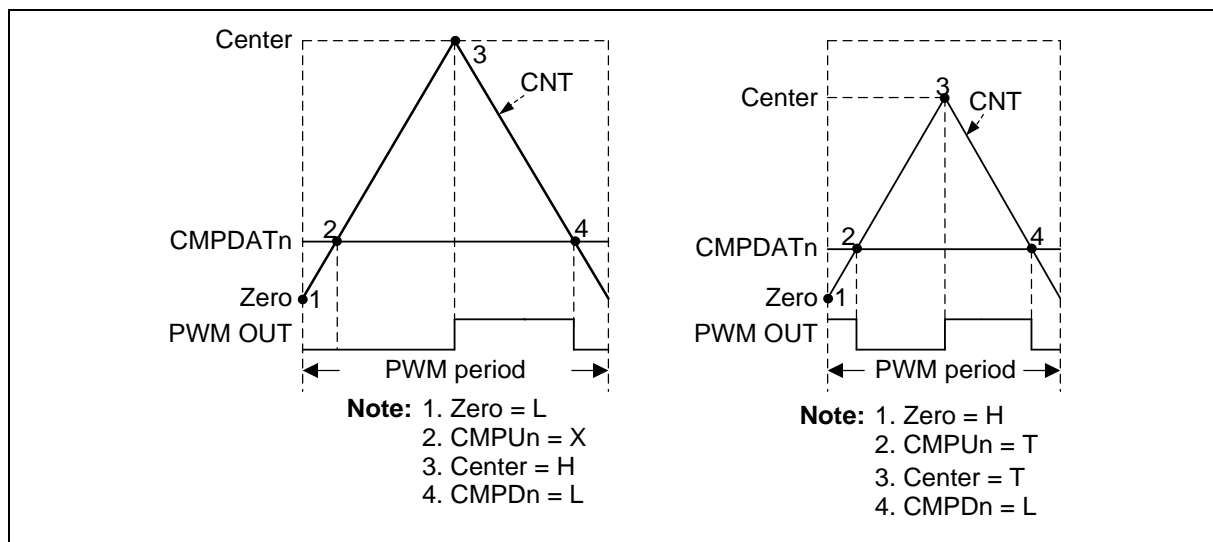

Figure 6.8-14 BPWM Pulse Generation
Each event point can decide BPWM waveform to do nothing (X), set Low (L), set High (H) or toggle (T) by setting BPWM_WGCTL0 and BPWM_WGCTL1 registers. Using these points can easily generate asymmetric BPWM pulse or variant waveform as shown in Figure 6.8-14. In the figure, there is a comparator n to generate BPWM pulse. n denotes channel number 0 to 5. CMPU denotes CNT is equal to CMPDAT when counting up, CMPD denotes CNT is equal to CMPDAT when counting down.